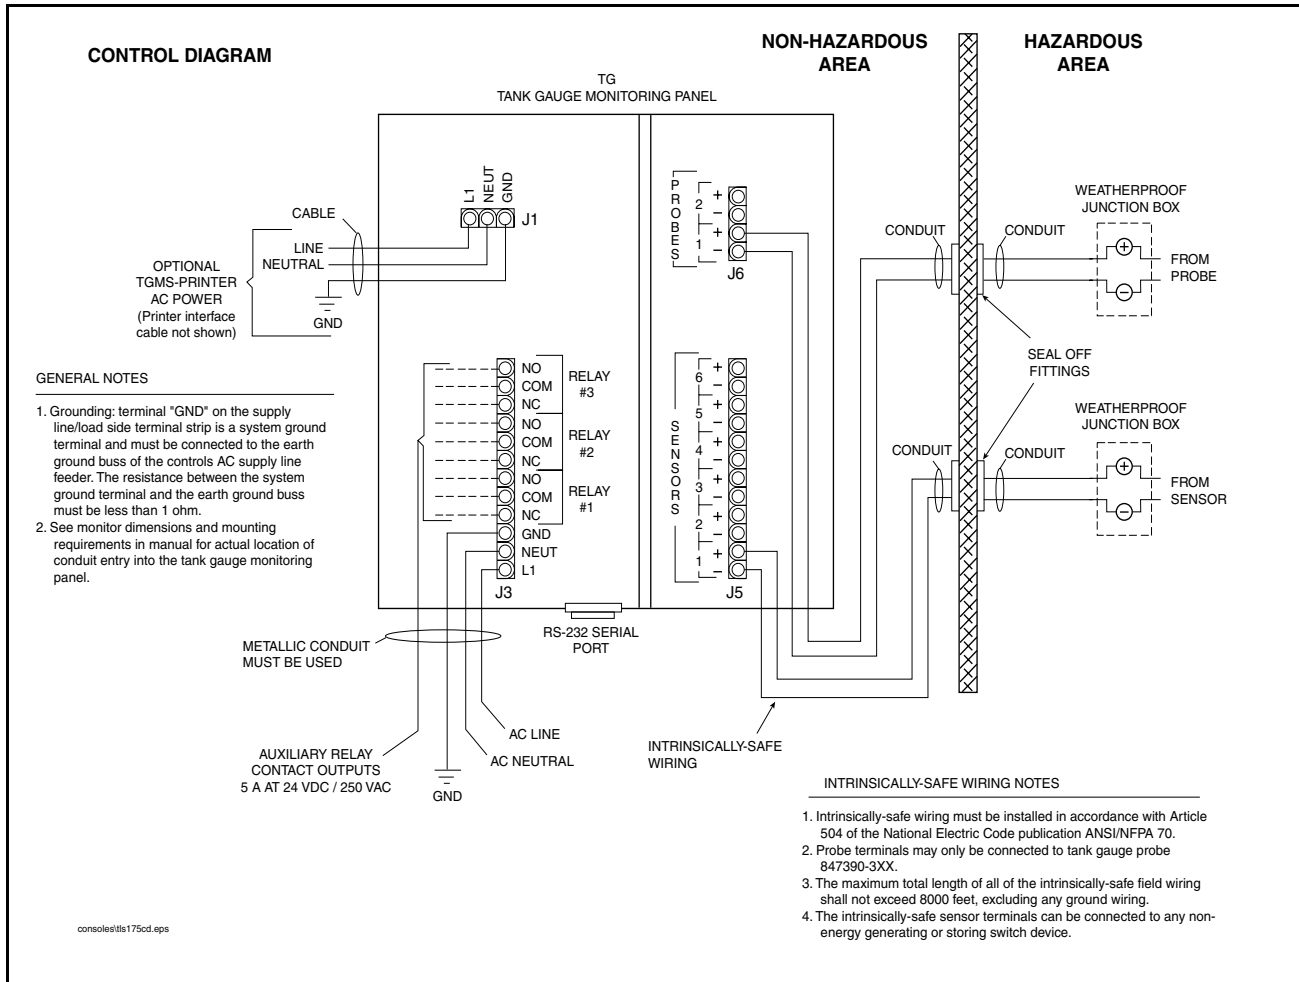

Figure 7. System Control Diagram
1. Connect the power wires (L1, NEUT) to the proper terminals of the AC connector [Figure 7 on page 13].
2. Connect the ground wire (GND) to the proper terminal of the AC connector [Figure 7].